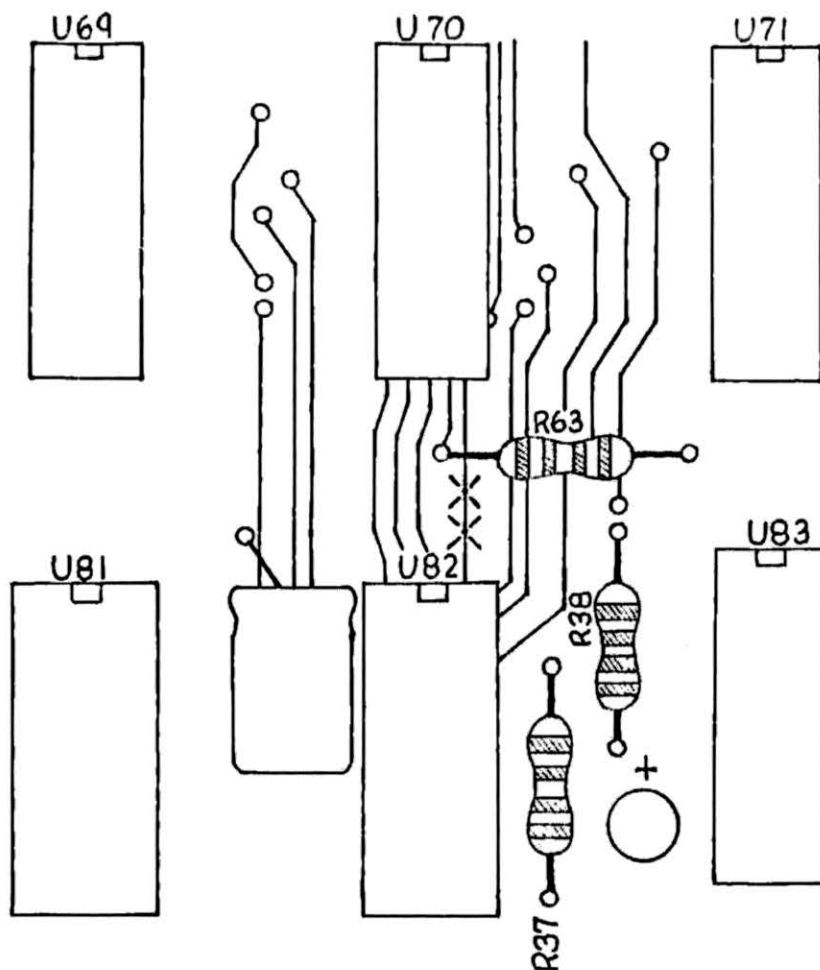
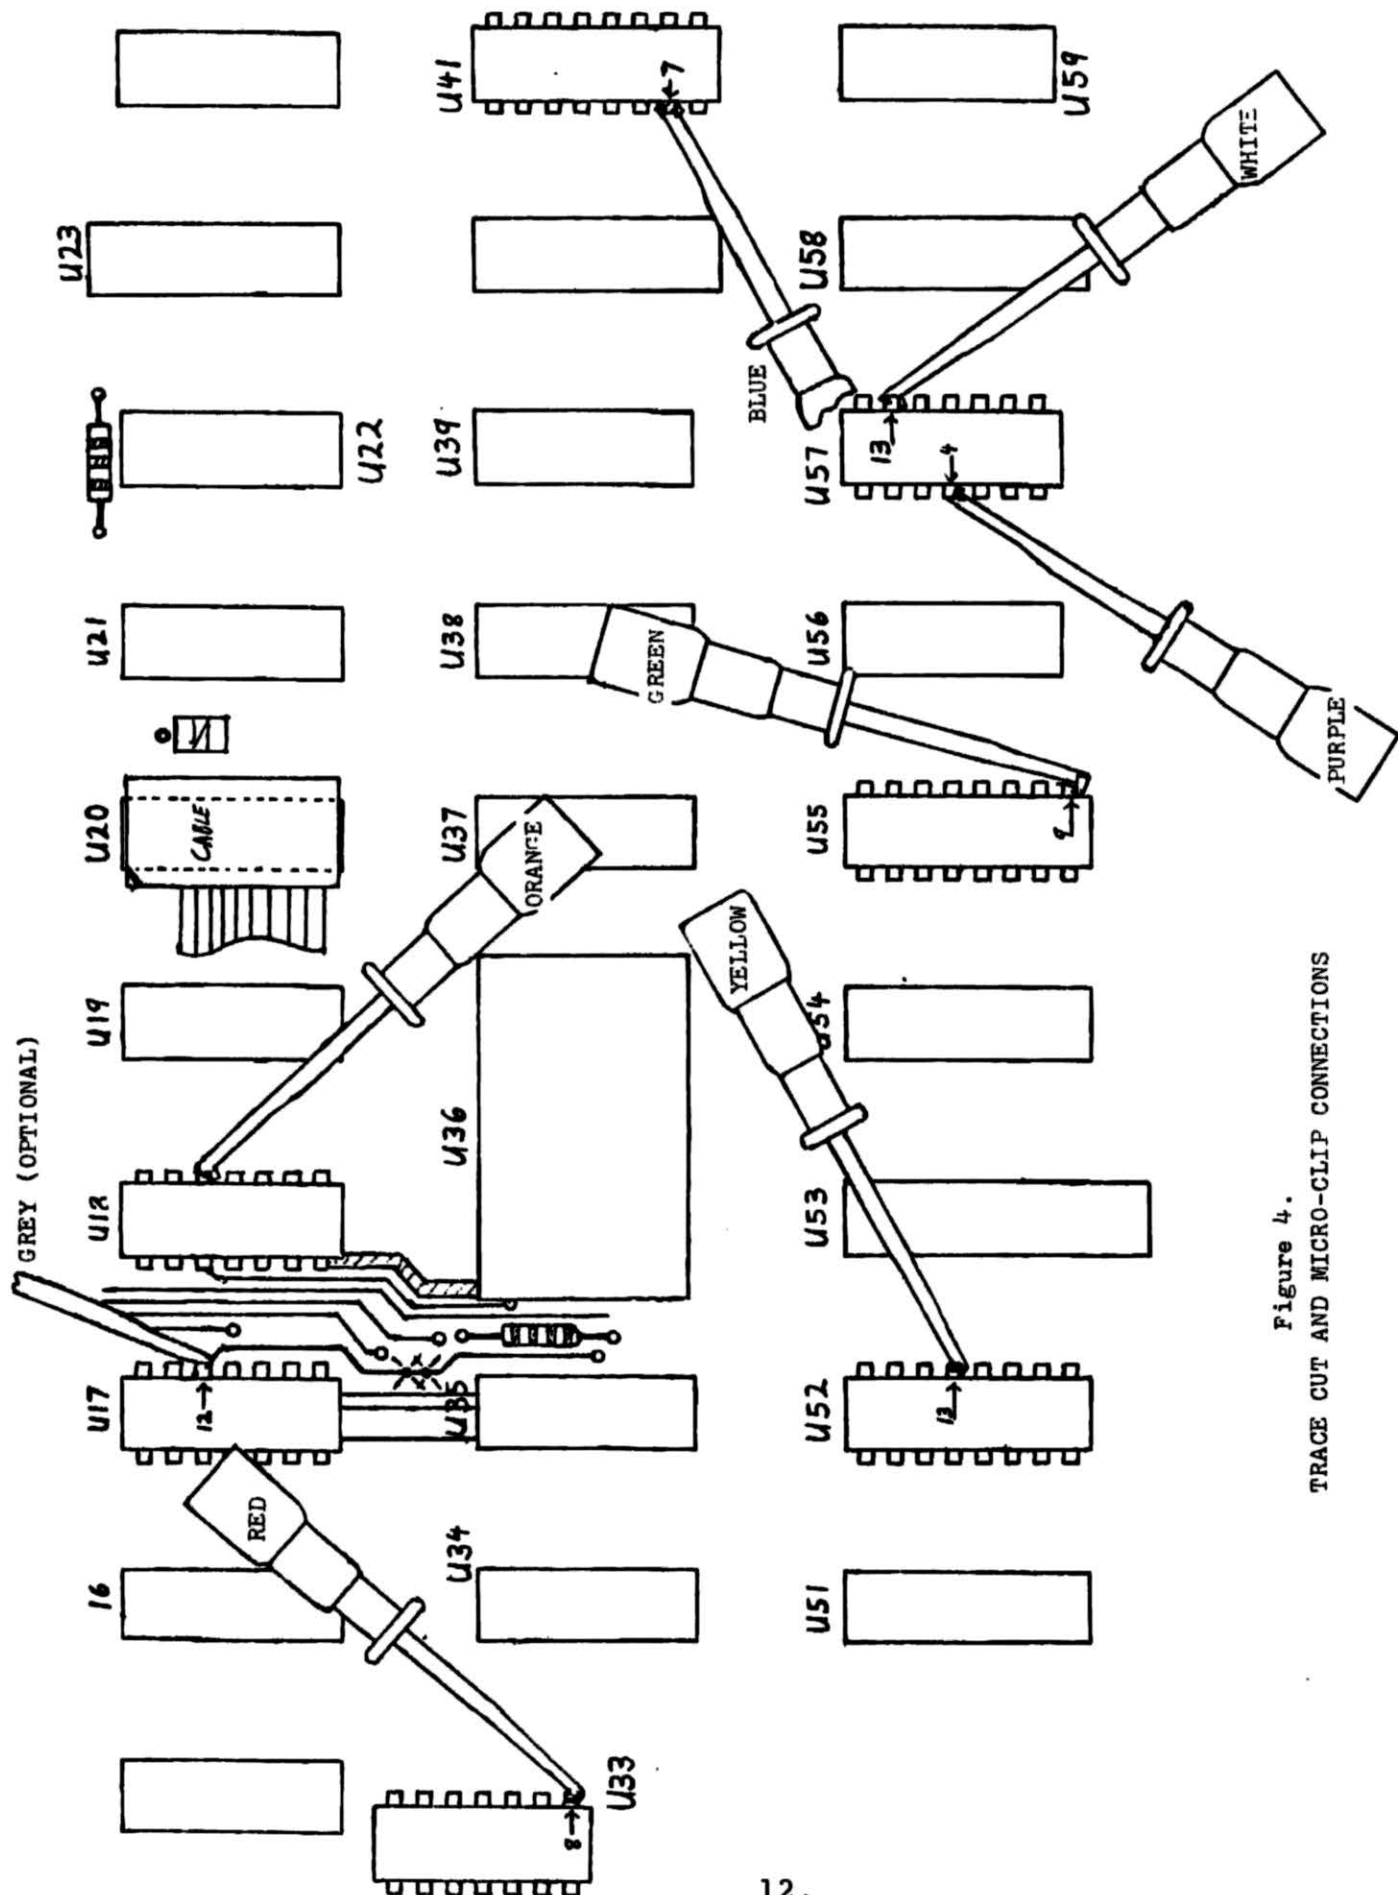

Figure 2. POSITION OF TRACE CUT
Figure 4.
8. There is one trace on the main TRS-80 computer board which must be cut with an X-acto knife. The trace is located above and to the right of IC U82 and is shown in Figure 2. In order to insure that the trace is completely cut, it is best to make two cuts very close to each other (about 1/16") and scrape off the portion of the trace in between the two cuts. Be careful not to damage any of the traces close to the ones being cut. There is a second trace cut which is optional. Performing this modification prevents clear streaks from interfering with the Grafyx Solution display during screen updates. The interference is not too noticeable unless you have a white on black display so you might want to skip this step until you have everything else working properly. The second optional trace cut is performed in the same manner as the first one. It is the trace running down from pin 12 of IC U17 and is shown in Figure 4.
9. Now that that's done, the next step is to install the Grafyx board. First, fasten the yellow micro clip to pin 13 of IC U52 as shown in Figure 4. Try to place all of the micro-clips as close to parallel with the CPU board as possible. Be sure that the clip is firmly attached and does not touch any adjacent pins on the IC. Be careful not to pull on the micro clips since they are easily bent out of shape. You should next fasten the green micro-clip to pin 9 of IC U55.
11. As shown in Figure 4, the red clip should be attached to pin 8 of IC U33. The orange clip goes to pin 12 of IC U18. The fourteen pin ribbon connector will now be attached to IC U20. A piece of double-stick tape is stuck to the bottom of the connector. An extra piece of tape is enclosed in case you remove the connector and want to re-attach it with a new piece of tape. Now remove the protective backing from the tape on the connector and press it firmly down onto the IC, rocking it back and forth to get it started. Make sure that all leads make contact with their respective IC leads and are not touching any other leads.
12. The following connections are illustrated in Figure 4: The blue clip should be attached to pin 7 of IC U41. The purple clip goes to pin 4 of U57. The connection of the grey clip depends on whether or not you performed the optional trace cut in step 8. If you did make the modification, the grey clip should be connected to pin 12 of U17. If you did not, or have not yet made the second trace cut, DO NOT connect the grey clip. Make sure that it does not touch anything by putting electrical tape over the end of the clip or by cutting the clip off at the board. Lastly, the white clip should be connected to pin 13 of U57.
If you decide to remove the Grafyx board now or at a later date, you will need to restore the TRS-80 to its original configuration. This is done by first removing the two socketed IC's from the Grafyx board and putting them in the corresponding sockets on the TRS-80. You may then try to solder the cut trace(s) back but this is difficult because of the skill required. We recommend using a jumper with a micro-clip at each end instead. These can be purchased from Radio Shack. You will need to jumper pin 10 of U19 to pin 10 of U81. A jumper from pin 12 of U17 to pin 8 of U39 is required if the optional trace cut shown in Figure 4 was performed. You will also need to re-insert the wire removed from the connector in the upper-right portion of the TRS-80 board. You can refer to the drawing which was used to show you how to remove it. Your computer should now work exactly as it did before it was modified.